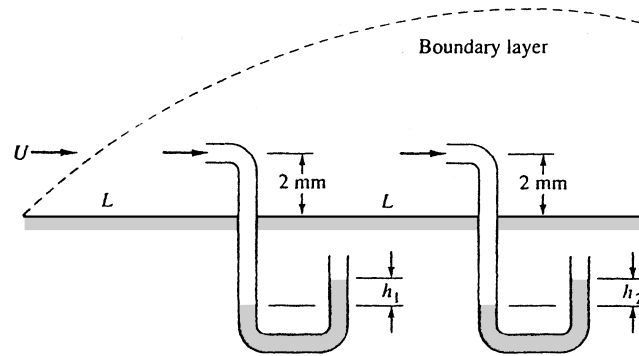

Fig. P7.24
**7.24** Air at  $20^\circ\text{C}$  and 1 atm flows past the flat plate in Fig. P7.24. The two pitot tubes are each 2 mm from the wall. The manometer fluid is water at  $20^\circ\text{C}$ . If  $U = 15 \text{ m/s}$  and  $L = 50 \text{ cm}$ , determine the values of the manometer readings  $h_1$  and  $h_2$  in cm. Assume laminar boundary-layer flow.